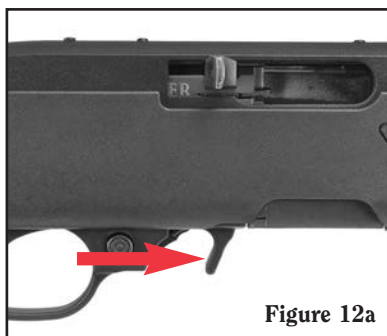
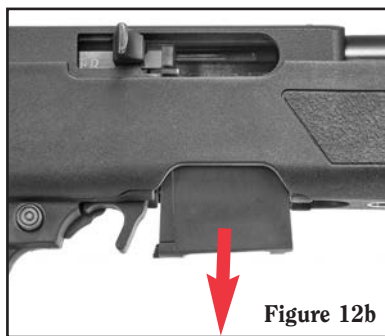

Figure 12a
Figure 12b
3. Remove the magazine by using your index finger to push forward on the magazine release (Figure 12a) and at the same time grasp the magazine between thumb and forefinger of the other hand to draw it out of the magazine well. (See Figure 12b.)
The safety should be “on” when the magazine is being removed or inserted. Move the magazine release forward (Figure 12a) and draw the magazine out by grasping it between your thumb and forefinger and draw it out of the firearm (Figure 12b).